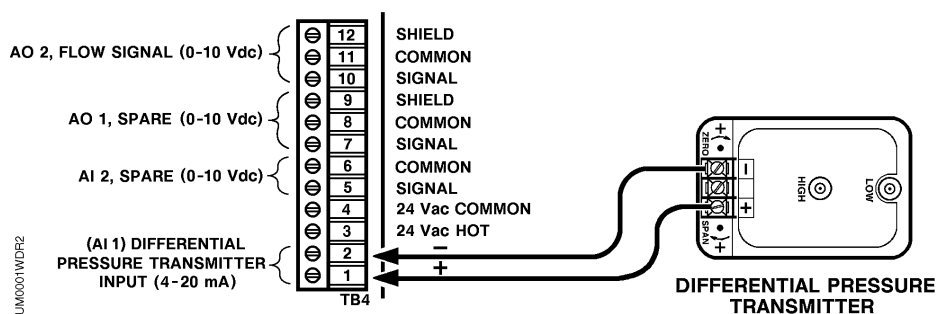

Figure 11. Differential Pressure Transmitter Wiring Connections
4. Connect a two conductor 20 AWG cable to the Fume Hood Controller for the differential pressure transmitter. See Figure 11 for wiring connections to the differential pressure transmitter from the Fume Hood Controller Board.